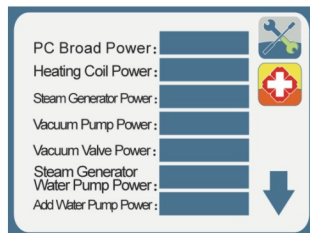
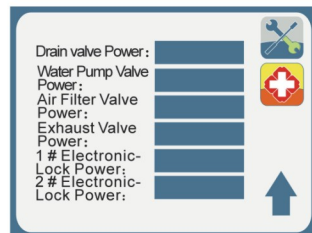

Fig.4.3-29
Fig.4.3-30
4.3.2.3.1 “TEST PARAMETERS” : Test all the working parts. Engineer will easy to find the problem. Operation Steps:when LCD display interface Fig.4.3-24, click on the “START/STOP” button 3 times, system starts to test the power of every parts to determine it working or not. Screen will show interface Fig.4.3-29 and Fig.4.3-30 after finished. use “LEFT” or “RIGHT” button round the page. Click “PROGRAM&SELECT” button to back to upper interface.